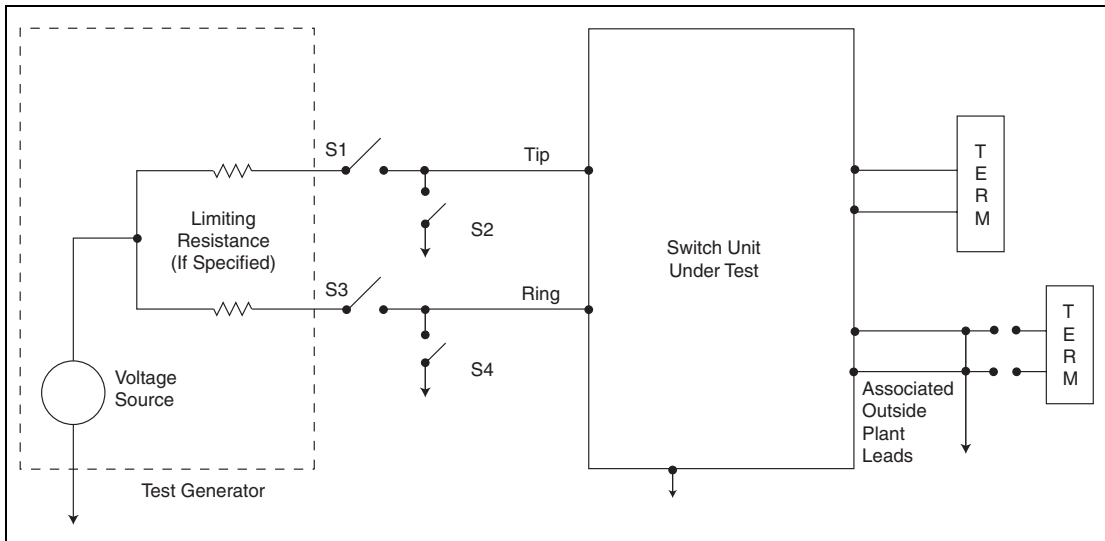

Figure 4.1 Connection Appearances
A minimum of three units are tested for each of the operating states in which the Equipment Under Test (EUT) may be expected to function — idle, transmit, receive, on-hook, off-hook, talking, dialing, ringing, and testing. Table 4.1 and Table 4.2 show test connections, and Figure 4.1 shows the connection appearances.
| Test (Notes 1 & 2) | Surge Voltage (V _{PK}) | Waveform (μ s) | Surge Current per Conductor (A) | Repetitions Each Polarity | Test Connections (Table 4.1, Figure 4.1) |
| Test | Surge Voltage (V _{PK}) | Wave-form (μ s) | Surge Current per Conductor (A) | Repetitions Each Polarity | Test Connections (Table 4.1, Figure 4.1) |
| Test | Surge Voltage (V _{PK}) | Waveform (μs) | Surge Current (A) | Repetitions Each Polarity | Test Connections (Table 4.1, Figure 4.1) |
| Test | Applied Voltage, 60 Hz (V _{RMS}) | Short Circuit Current per Conductor (A) | Duration | Primary Protectors | Test Connections (Table 4.1, Figure 4.1) |
Table 4.7 presents test conditions for non-customer premises equipment. (Note that test conditions 1, 3, and 4 may be omitted if the EUT has previously met UL 60950.) See Figure 4.1 for test connection appearances.
| Test (Notes 1, 2) | Applied Voltage, 60 Hz (V _{RMS}) | Short Circuit Current per Conductor (A) (Note 5) | Duration | Test Connections (Table 4.1, Figure 4.1) |